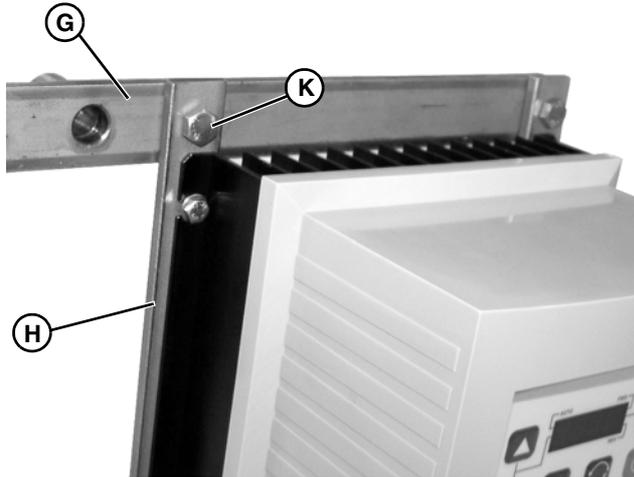

Figure 8
- Attach controller mounting bars (Figure 8, item H) to conveyor mounting bar (Figure 8, item G) with M6x16 mm screws (Figure 8, item K).